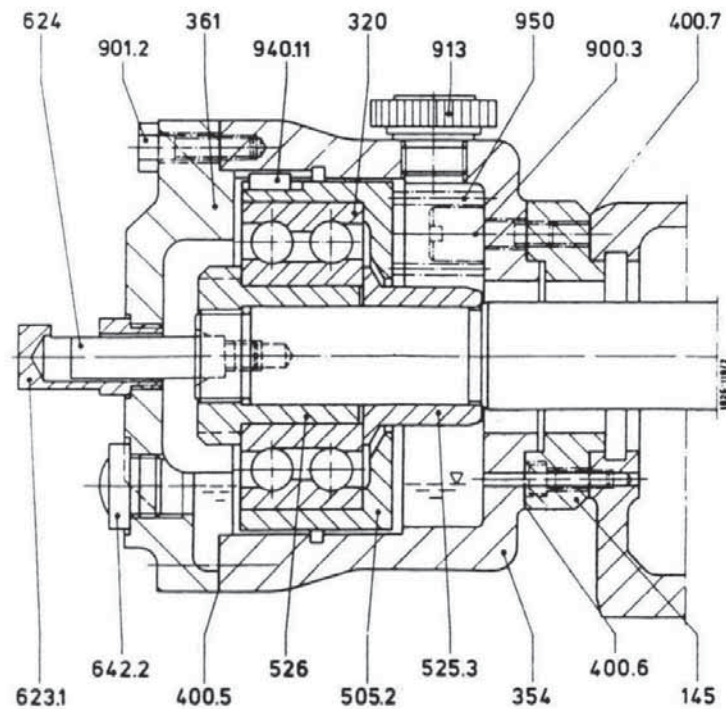
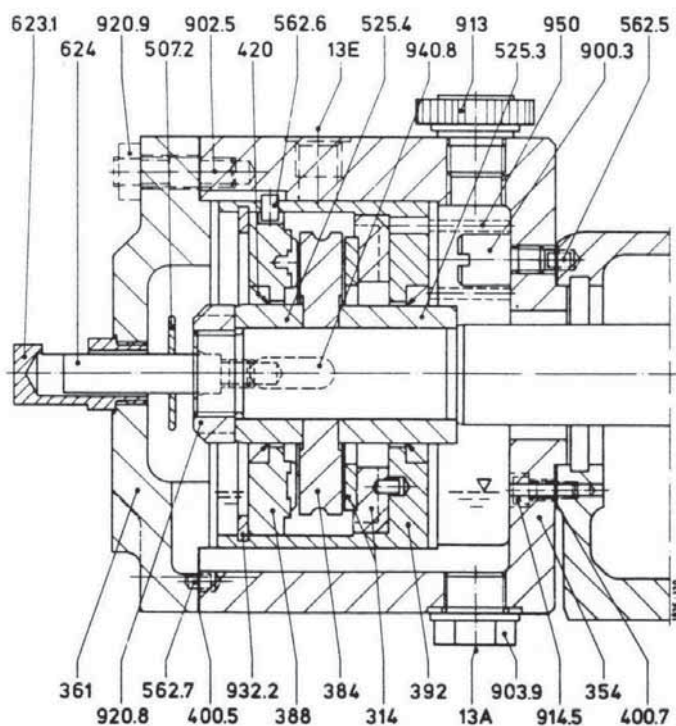

Figure 21 – Lift-off device with roller bearings for pumps with plain bearings for sizes 40 to 100
Fig. 23 – Lift-off device with forced feed lubrication for pumps with plain bearings for sizes 40 to 100
- 13 Depending on the pump size and speed there are two types of lift-off device i.e. execution with roller bearings (figures 21 and 22) and with segment bearings (figures 23 and 24). For plain bearings with forced feed lubrication the device shall be used as shown on figures 23 and 24. These executions require pressurized oil and consumption according to Table 8.
Fig. 21 and 22 Material	Fig. 23 and 24 Material